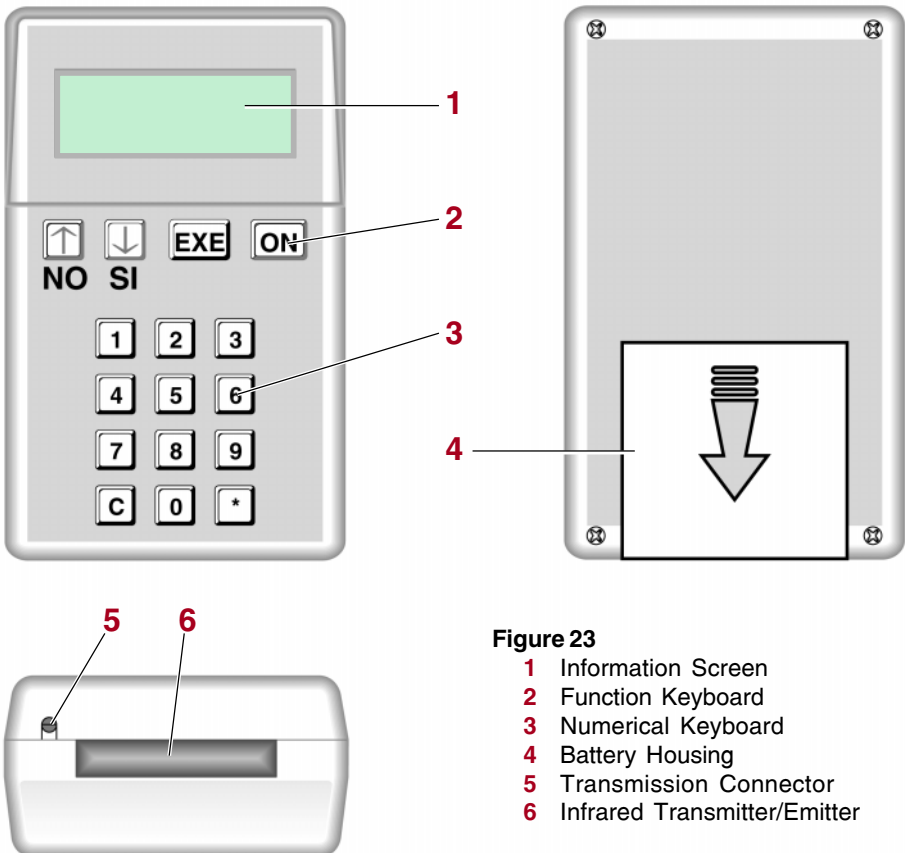

Figure 23
- ✓ Remove the battery cover (**fig. 23**, pos. 6) pressing in the direction of the arrow.